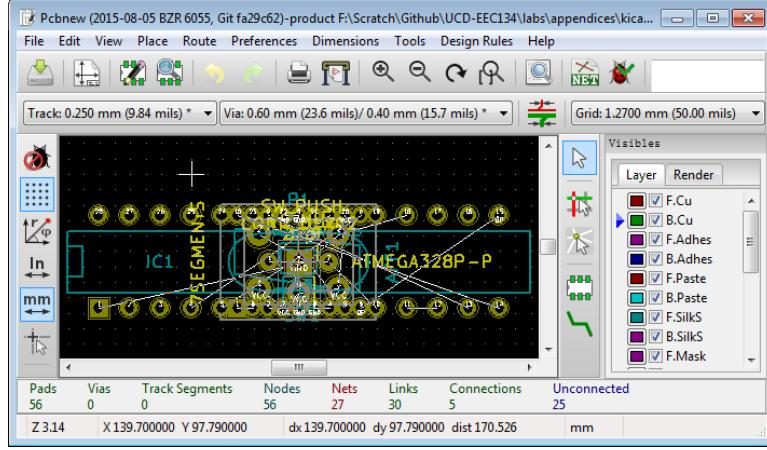

Figure 23: “Rat’s nest” of footprints and connections after initial import of the netlist.
4. You should now see a bunch of footprints appear in the Pcbnew main window (Fig. 23). The electrical connections between the components are shown as thin white lines. This initial blob of footprints and lines are often called a “rat’s nest”.